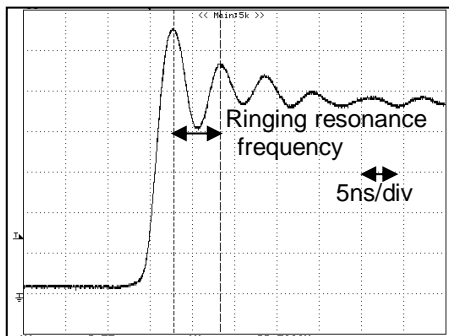

Figure 76. PWM Output Waveform (Measure of spike resonance frequency)
1. Measure the ringing resonance frequency f_1 of PWM output waveform (when rising) by using low capacitance Probe (e.g. FET probe) at the OUT pin. (Figure 76)